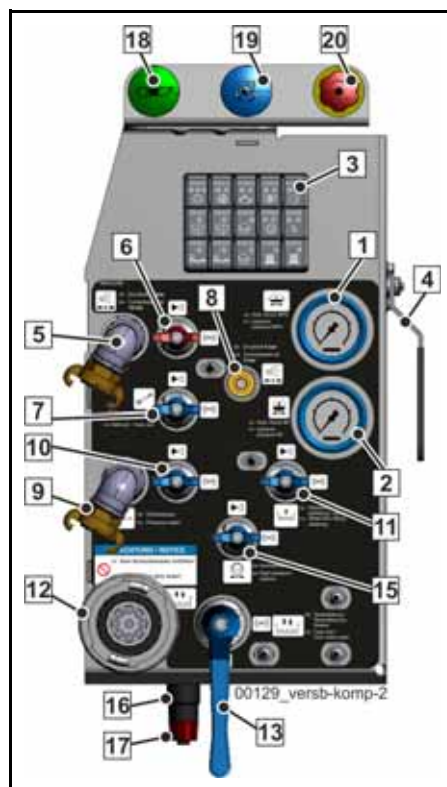

Fig. 431 Supply control
- Opening the ball valve (15) (**Fig. 431**) directs water from your machine's water case to the high-pressure pump. See information sign on the supply control.